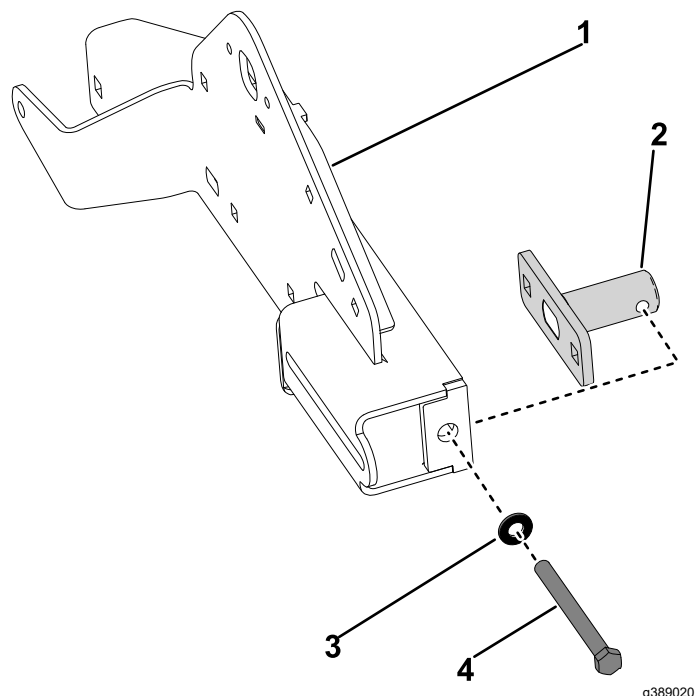

Figure 27
1. Install the tensioner to the new track support assembly, loosely secure with the retained washer (3/8 inch) and screw (3/8 x 4 inch) (Figure 27).